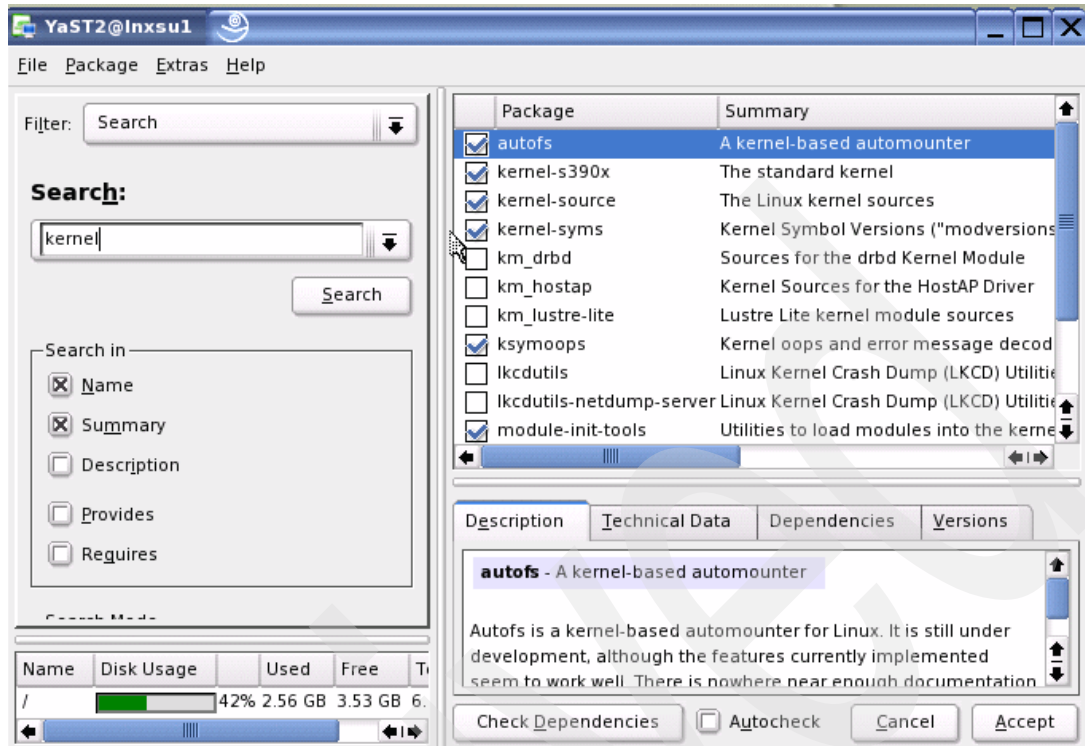

Figure D-6 YaST2 Search packages screen
4. At the search screen, we entered the package name and clicked **Search**. All packages with the requested name were listed, as shown in Figure D-6 on page 305.